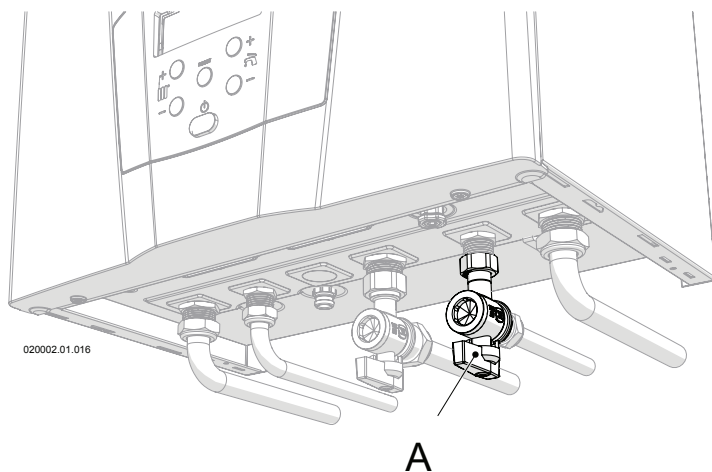

Figure 6-11 – Domestic hot water flow rate selector switch
- 5 - If the water temperature is too cold, the flow rate must be reduced using selector "A" in figure 6-11, until the desired temperature is reached.